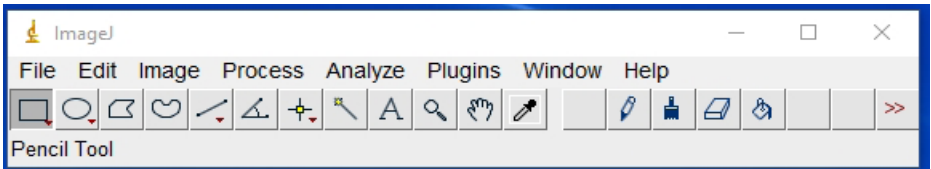

Fig. 21–You can access the OptiSarc Plugin from the ImageJ main window.
1. Edit ImageJ memory buffer in Edit\Options\Memory & Threads, and set the Maximum Memory to 4000 MB (Fig. 21). Restart μ Manager.